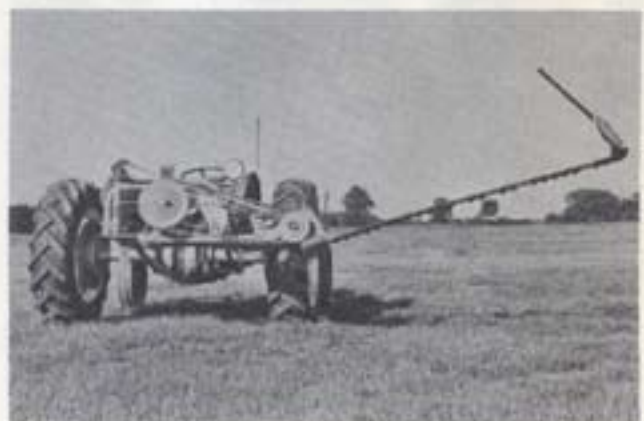

Fig. 41 Field Transport Position
1. Raise the mower to the field transport position. (Illustrated Fig. 41).
The road transport position, as described above, is illustrated in Fig. 40. For field transport position, which is used when mowing from one fairly open part of a field to another, or for finishing a field, it is unnecessary to raise the cutter bar to the vertical position. This position is illustrated in Fig. 41.